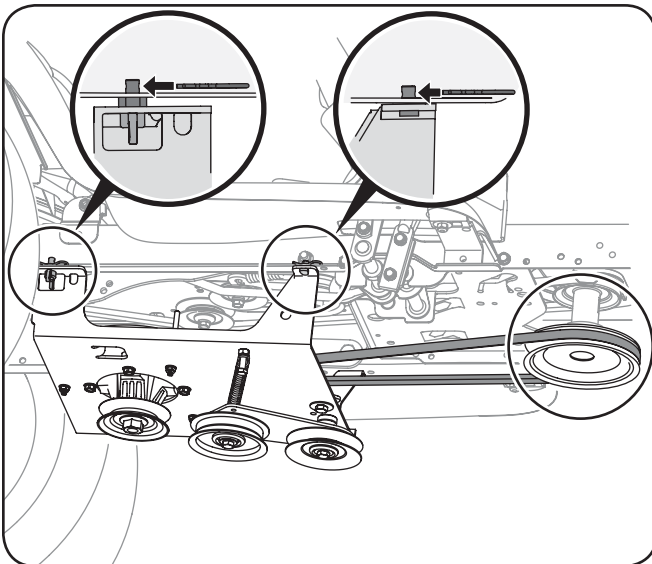

Figure 3-8
4. The weld pins on the top of the undercarriage assembly should go through the aligning holes found along the tractor's frame. See Fig. 3-8.
5. Fasten the undercarriage assembly to the frame with the four hairpin clips removed in step 2. See Fig. 3-8.
6. Route the upper drive belt around the engine pulley. See Fig. 3-8.